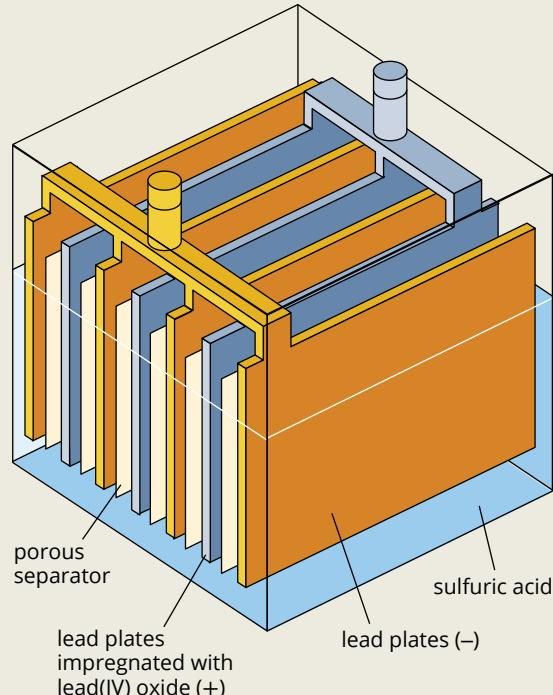

FIGURE 5.4.7 Construction of a lead–acid battery.
As shown in the diagram in Figure 5.4.7, a modern lead–acid battery is actually six separate cells connected together in series. The positive electrodes consist of a lead grid packed with lead(IV) oxide (PbO_2) while the negative electrodes consist of a lead grid packed with powdered lead. A solution of sulfuric acid, of about 4 M concentration, acts as the electrolyte.